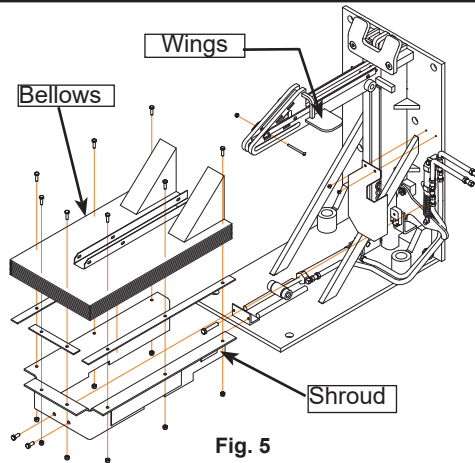

Fig. 5
2. Remove the existing bellow and shroud assemblies, (Fig. 5). When removing the screws and lock nuts that attach the bellows to the hook, remove the front two first, (Fig. 6).
4. With the hook weldment exposed, remove the “wings” using a cut-off wheel, (Fig. 5).